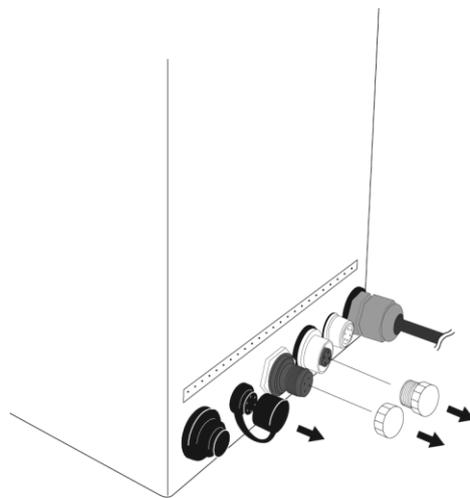

Fig. 3-1
**Note** Remove the socket caps from the display section (three caps) to access the terminals (Fig. 3-1).
①Run the unit from a power supply of 100V AC to 240V AC, 50/60Hz.
②Install the unit in an ambient temperature range of 5 to 40 °C.
③This unit contains precision components.